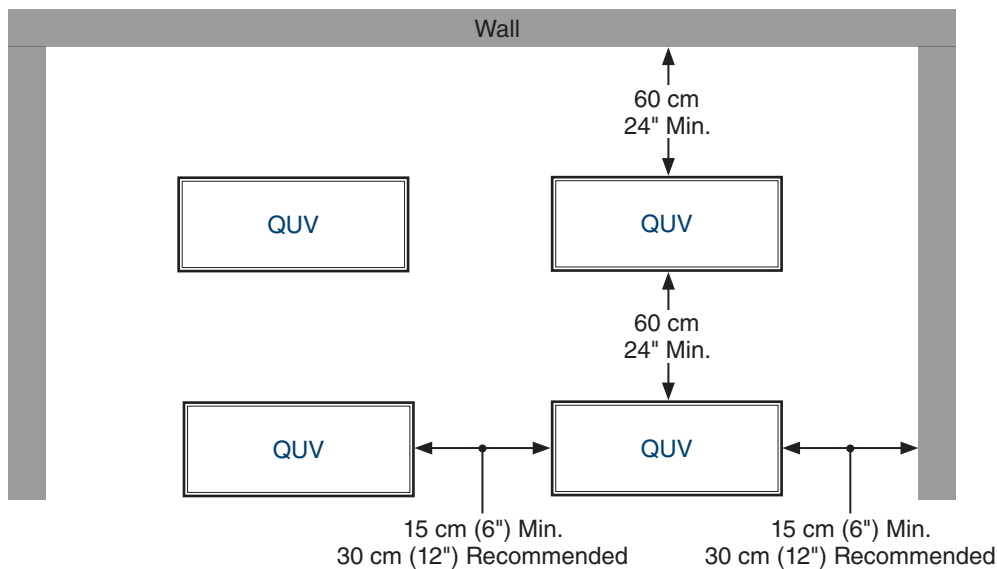

Figure 5.2b: Tester space requirements (top view).
- The testers should be positioned as shown in Figure 5.2b.